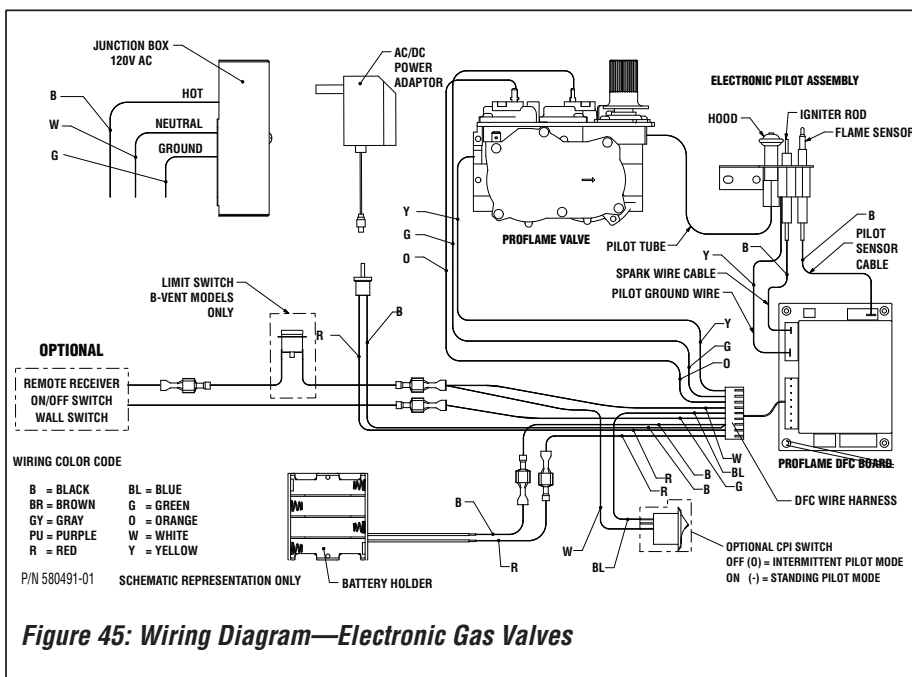

Figure 45: Wiring Diagram—Electronic Gas Valves
B. Electronic Wiring (Figures 45 & 46)
4. See Figures 45 & 46. Connect the black power supply wire to the lower outlet's red pigtail lead.
7. If an optional control is to be used, wire it in the low voltage circuit as shown in **Figure 45**.